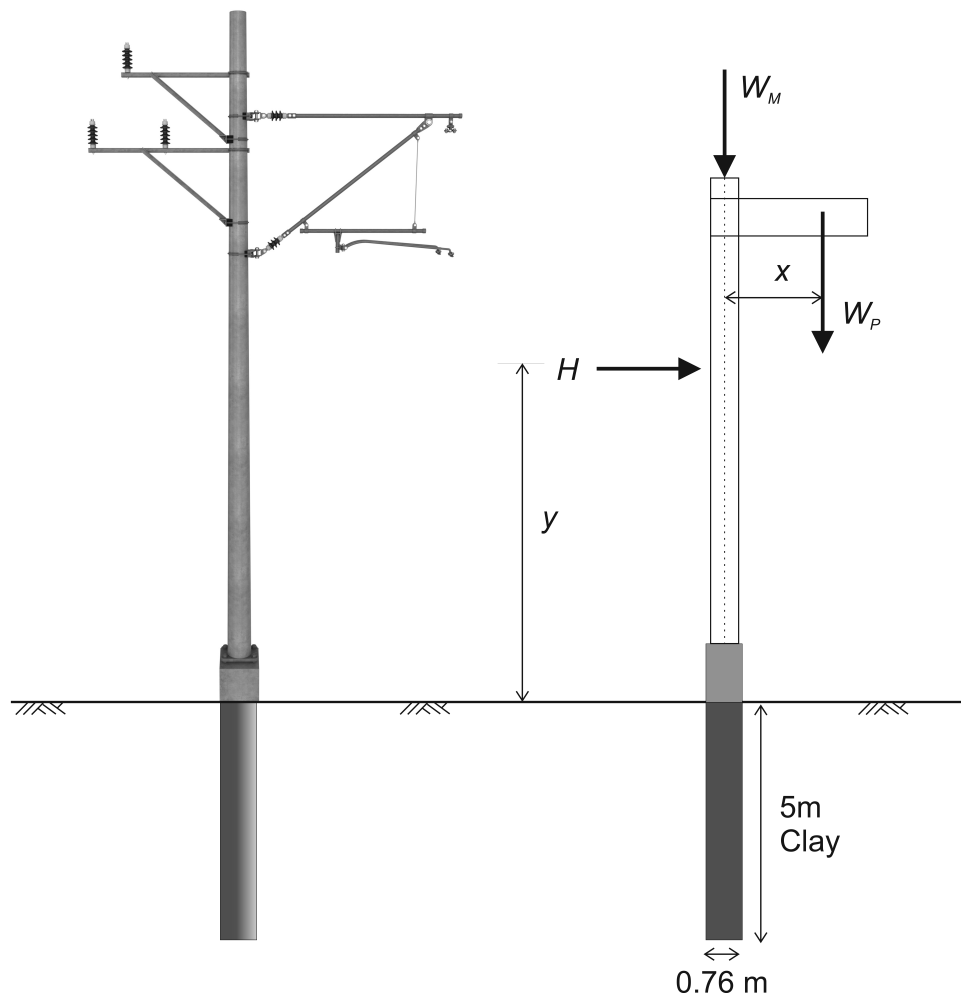

Fig. 2
The maximum operational loads acting on the overhead line support structure are summarised in Fig. 2 and comprise:
- a horizontal load caused by the wind of $H = 2.3$ kN, applied at a height $y = 7.7$ m above the clay surface (Fig. 2)